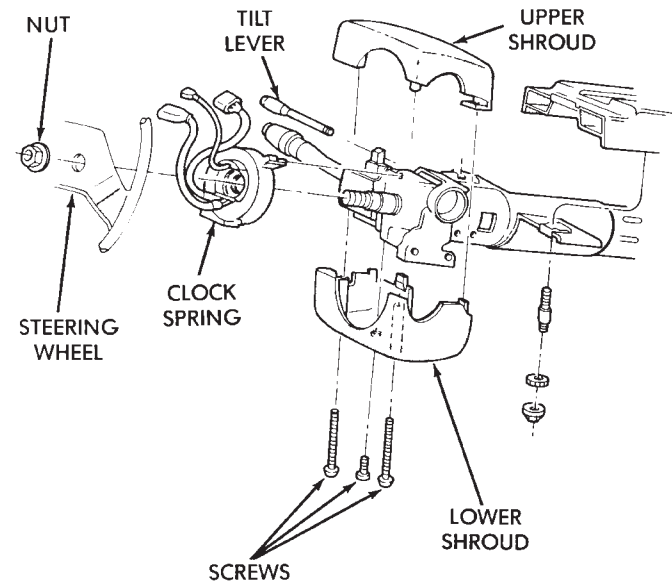

Fig. 12 Steering Column Shrouds
(4) Remove the air bag module. Refer to Air Bag Module Removal.
(5) Remove Speed Control switch and connector if equipped.
(6) Remove the steering wheel and vibration dampener.
(7) Disconnect horn terminals.
(8) Remove upper and lower steering column shrouds to gain access to clockspring wiring (Fig. 12).